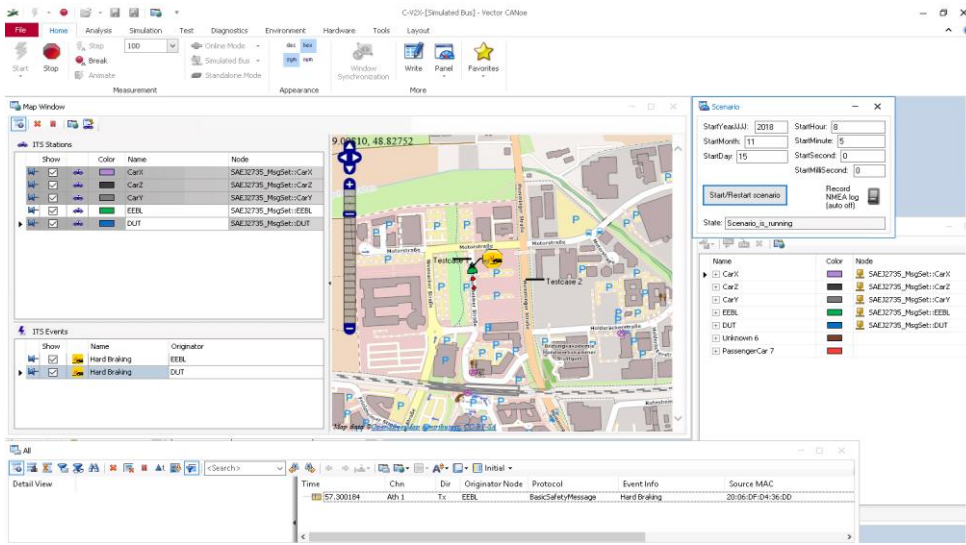

Figure 23: Running simulation
- ▶ Click the *Start Scenario* button and wait until the communication between CANoe and CMW500 is established (Figure 23). As soon as the DUT has received the satellite synchronization information, you can see the corresponding information sent by the DUT in CANo.